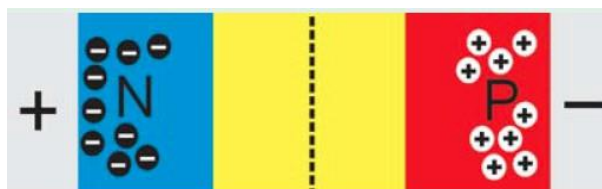

Figure3.ReverseBiasedPNJunctionDiode
- The movement of holes and electrons in a reverse biased diode is shown in Figure 3.